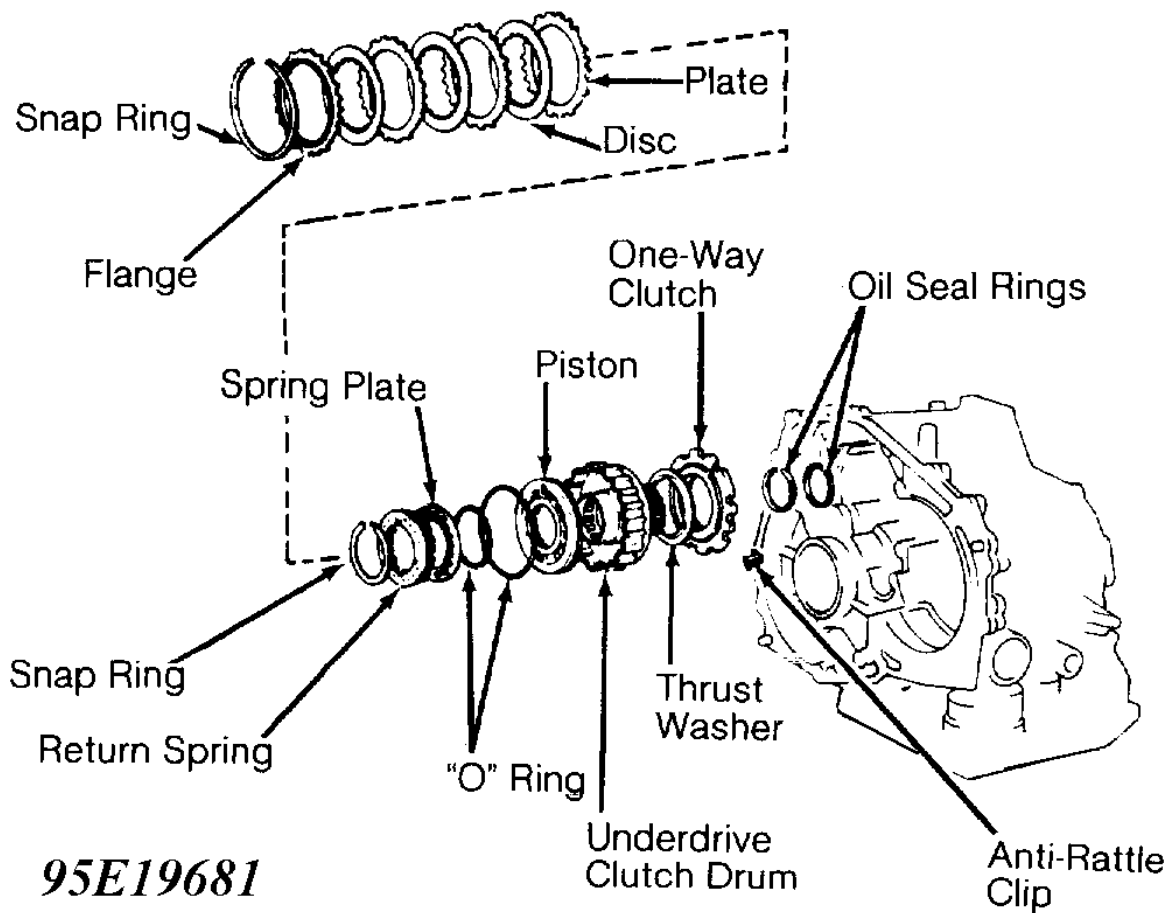

Fig. 48: Exploded View Of Underdrive Clutch & No. 3 One-Way Clutch
1. Remove one-way clutch and thrust washer from underdrive clutch drum. Remove snap ring from underdrive clutch drum. See Fig. 48 . Remove flange, discs and plates from clutch drum. Note number and location of components. Using appropriate spring compressor, compress return spring plate.